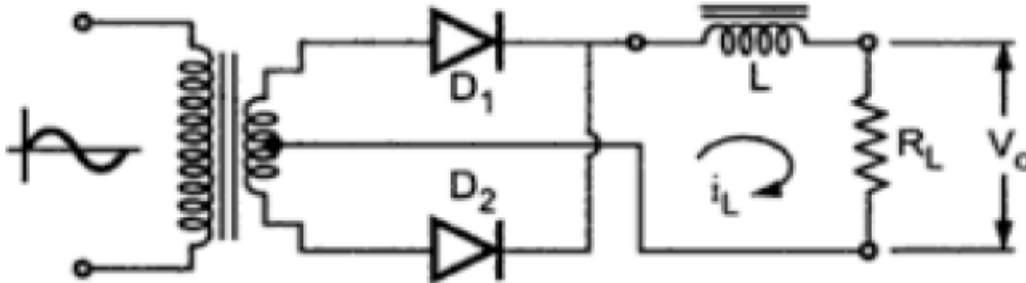
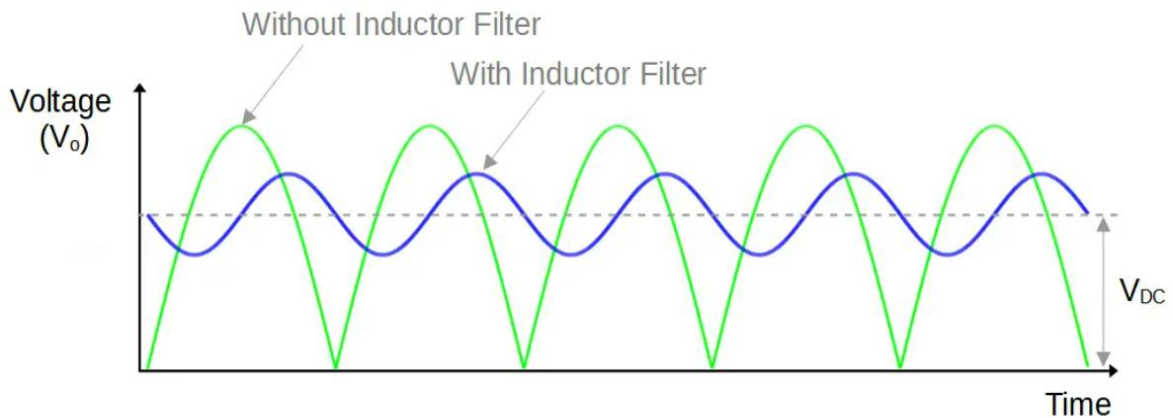

Fig. 2.12 Circuit diagram of Inductor filter
Fig. 2.13 Output Voltage waveform of Inductor filter
- Fig. 2.12 shows the circuit diagram while Fig. 2.13 shows the current waveform obtained by using choke filter with full wave rectifier.